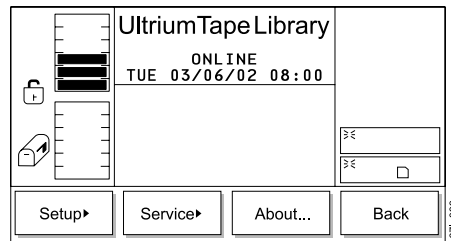

Figure 347. Main Menu (alternate screen)
1. From the Main Menu's initial screen, press the button below the **More** softkey. The Main Menu's alternate screen displays (see Figure 347).